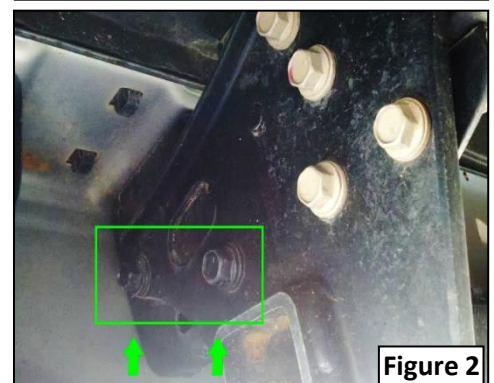

Figure 2
7. Use an 11/16" socket to remove the 4 bolts on either side of the bumper frame mount. There will be 2 bolts on each side that will need to be removed. They are located closest to the bumper. See **Figure 2**. (On vehicles without a tow package, loosening the remaining bolts connecting the frame plates to the frame may make removal / installation of the bumper easier).